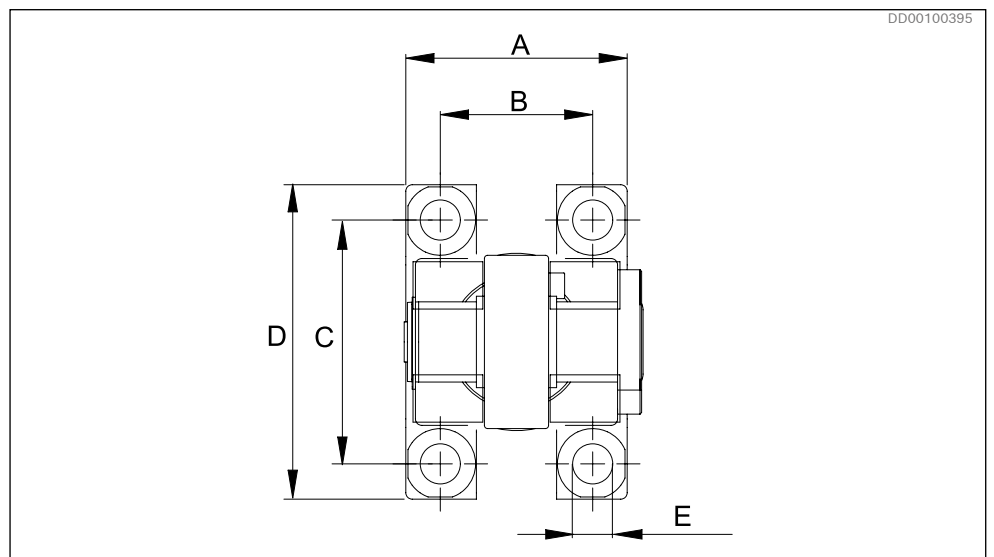

Fig. 28: Hole pattern for articulated connection and hydraulic cylinder for DTCA
- ▶ Hole pattern and dimensions for ground attachment see Fig. 28 and Table 11